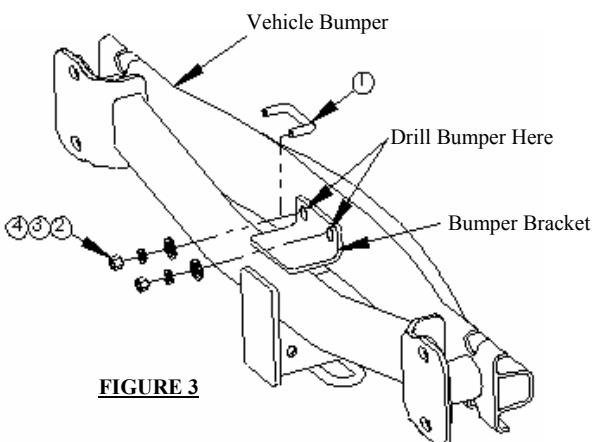

FIGURE 3
①	Qty. (1)	U-bolt, 3/8"	③	Qty. (2)	Lockwasher, 3/8"
②	Qty. (2)	Conical Washer, 3/8"	④	Qty. (2)	Hex nut 3/8"
4. Clamp the hitch and the bumper to each other off of the vehicle. Align the mounting holes on the hitch and the bumper, as shown in Figure 3. Make sure that the threaded hole in the bumper is on the passenger side. Drill two holes in the bumper, using the holes in the bumper bracket as a template.
5. Feed the u-bolt through the bumper bracket and the bumper. Fasten in place as shown in Figure 3, finger tight.